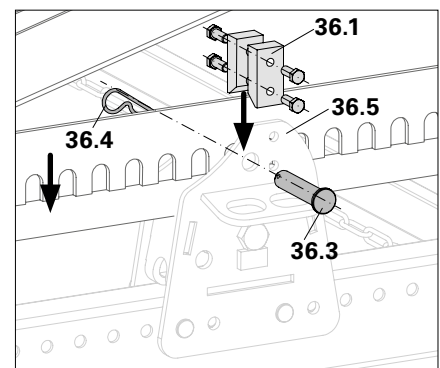

Fig. A10.03a
1. Remove the blocks (36.1). (Fig. A10.03a)